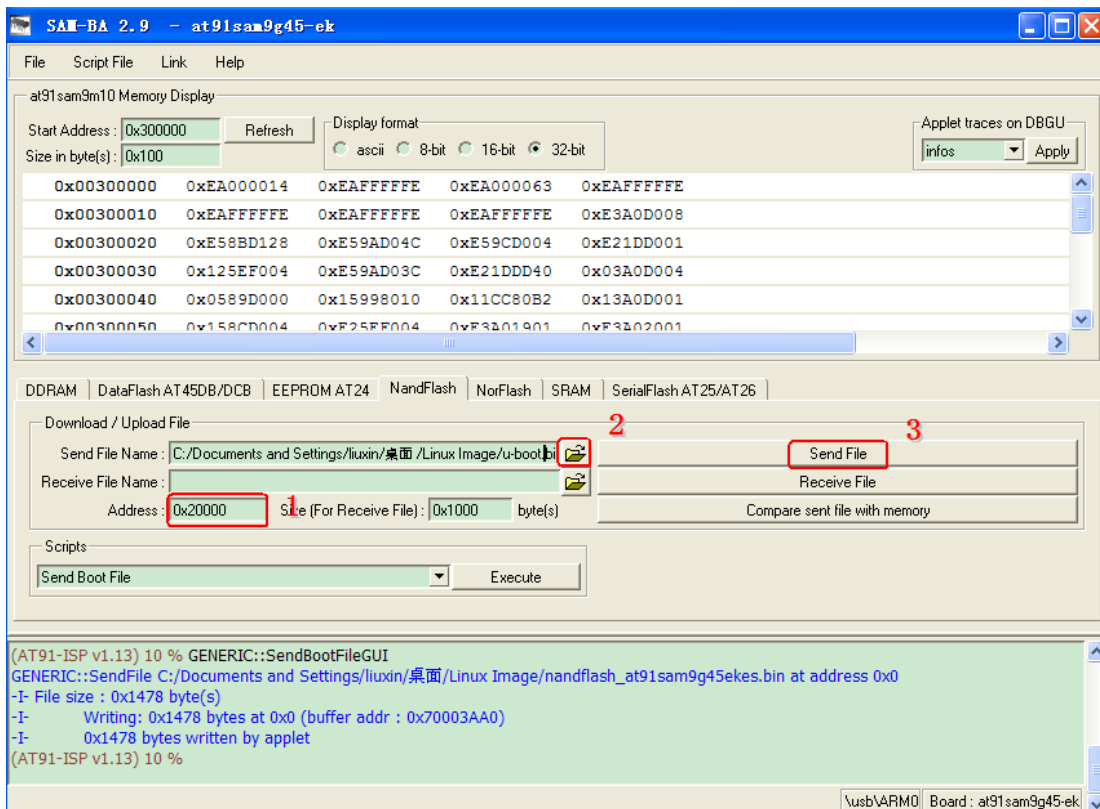

Figure 4-8
(5) Download u-boot.bin to 0x20000. Refer to figure 4-8: